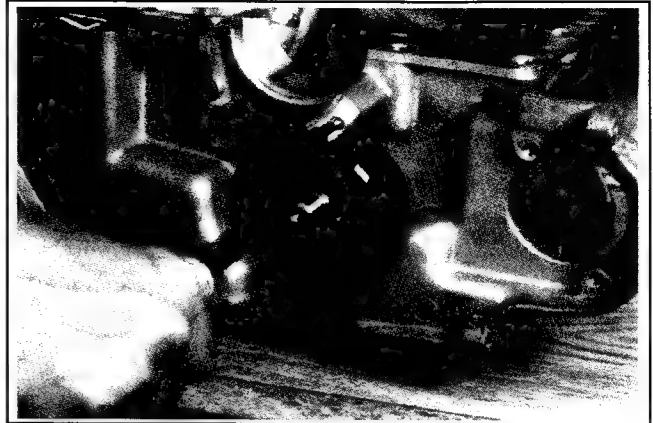

Figure 9-48. Removing Oil Pump Cover.
3. Remove the three screws from the pump cover and remove the cover. See Figure 9-48.